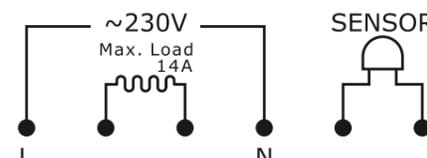

Figure 2
- Fix the electrical wires of temperature sensor in spring-loaded contacts (see Figure 2) of blue color SENSOR (using the yellow clips).